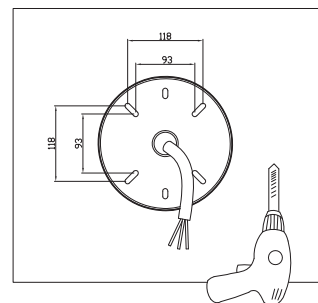

Figure 5
Step 3: Drill holes on the wall according to the locating plate (Figure 5)